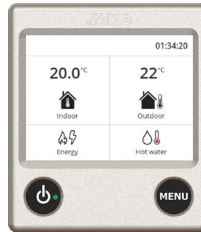

Fig. 4, 1 zone
- To change the indoor temperature from the status screen, press the “Indoor” icon. Raise or lower the temperature using the plus and minus buttons. (Fig. 4)